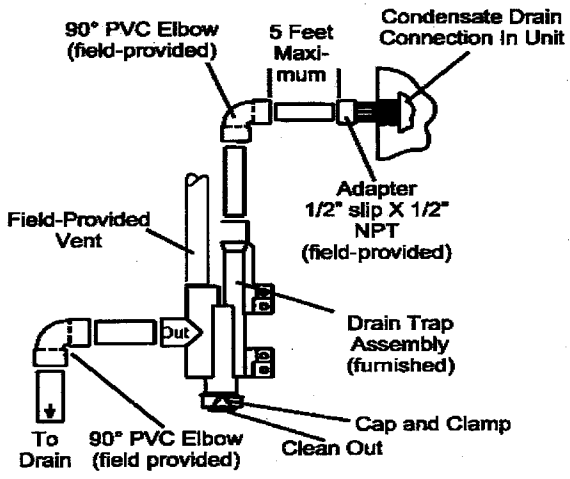

Figure 28
3. Install the cap over the clean out opening at the base of the trap. Secure with clamp. See Figure 28.
4. Install drain trap using appropriate PVC fittings, glue all joints. Glue the provided drain trap as shown in Figure 28. Route the condensate line to an open drain. *Condensate line must maintain a 1/4" downward slope from the furnace to the drain.*